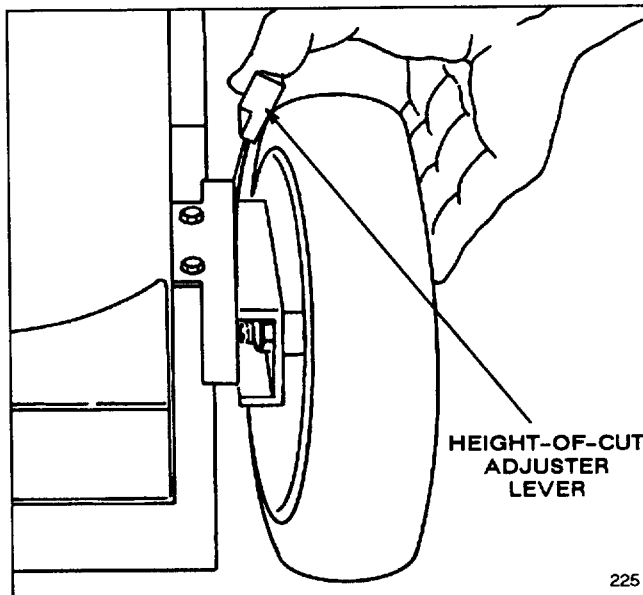

Figure 14
2. For easier adjustment, lift housing up so wheel is off ground. **Do not place hands under deck to lift housing.** Squeeze adjusting lever toward wheel (Fig. 14) and move it to the desired setting. Ensure pin on height-of-cut adjuster lever engages notch in mower housing wear plate. Adjust all wheels to the same setting.